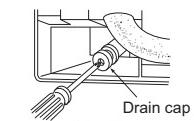

Fig. 3
- When connecting the drain hose to the hard vinyl chloride pipe, be sure to insert it securely into the pipe. (Fig. 3)